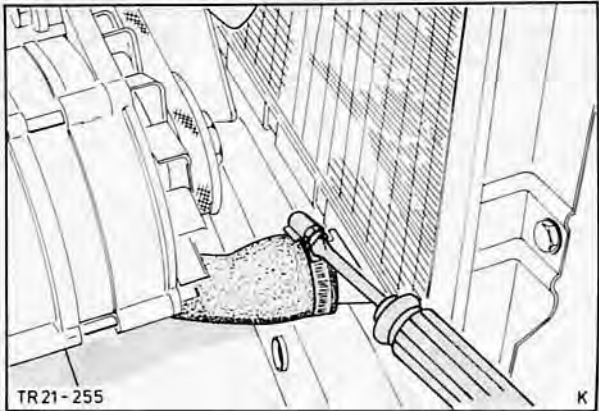

Fig. 194. Disconnect radiator hose from radiator
1. Disconnect battery earth strap. Drain coolant into tray, disconnecting radiator hose from radiator bottom neck, Fig. 194, and engine water outlet at top.
4. Remove camshaft pulley and thrust washer, Remove oil seal using Special Tool 21-008-A, Fig. 194.